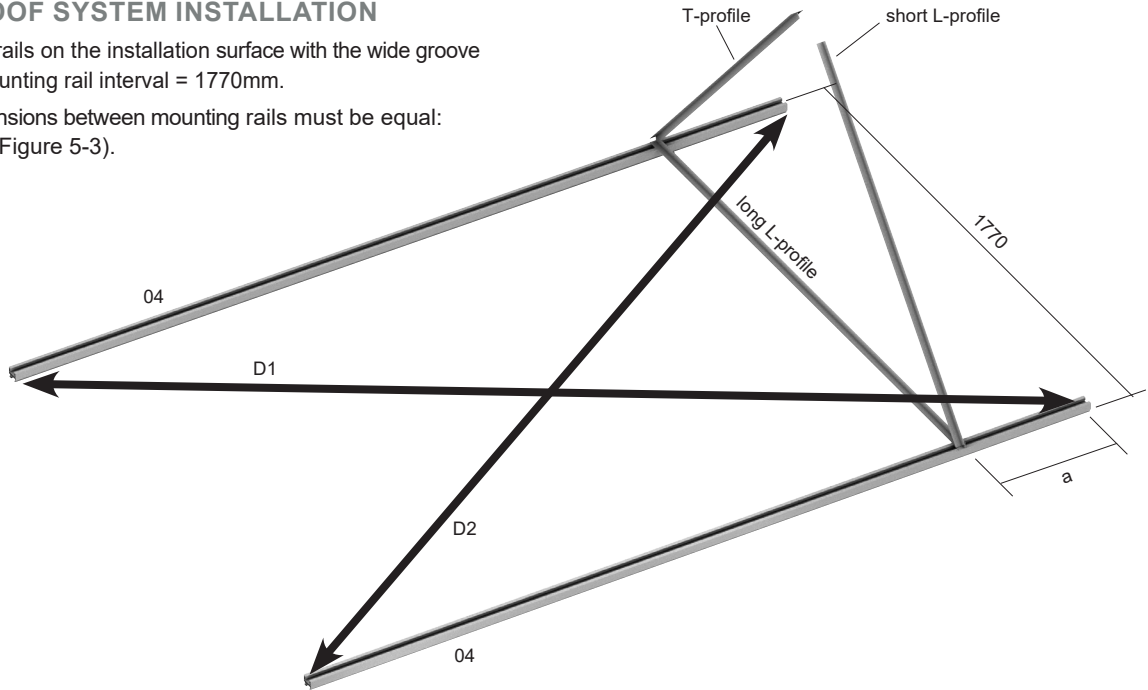
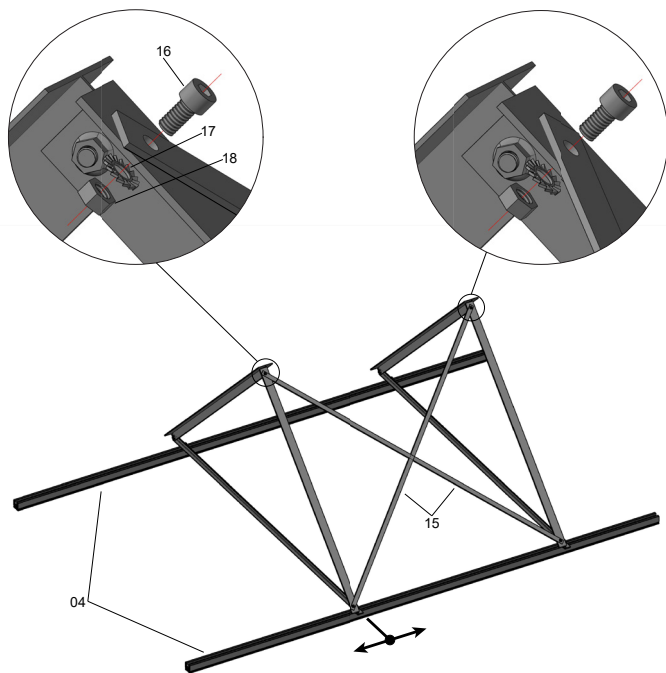

Figure 5-3: Installation of the First Flat Roof Mounting Bracket
Figure 5-6: Installation of the Second Flat Roof Mounting Bracket and Securing Cruciform
$D1 = D2$ (see Figure 5-3).
2. Refer to Figure 5-3. Open out a prefabricated flat roof mounting bracket and place the long L-profile on the mounting rail so that the T-profile points backwards. For dimension "a", refer to Section 3.2.
5. Refer to Figures 5-6, 5-7 and Table 5-2. Unpack the securing cruciform (15) and fixings pack. The cruciform is fixed to the short L-profile of the flat roof mounting bracket (see Figure 5-3).
First, position the pre-drilled hole in the upper part of the securing cruciform over the pre-drilled hole in the upper part of the short L-profile of the flat roof mounting bracket and secure with the bolts, grip washers and nuts supplied. See Figure 5-6.